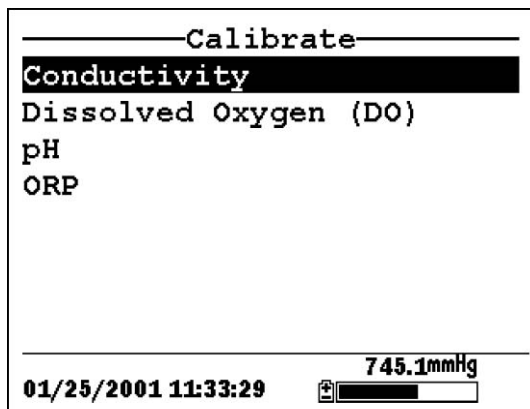

Figure 6.2 Calibrate Screen
2. Use the arrow keys to highlight the **Conductivity** selection. See Figure 6.2 Calibrate Screen.
- 15.** Press **Escape** to return to the calibrate menu. See Figure 6.2 Calibrate Screen .
- 2.** Use the arrow keys to highlight the **Dissolved Oxygen** selection. See Figure 6.2 Calibrate Screen.
11. Press **Escape** to return to the calibrate menu. See Figure 6.2 Calibrate Screen.
2. Use the arrow keys to highlight the **pH** selection. See Figure 6.2 Calibrate Screen.